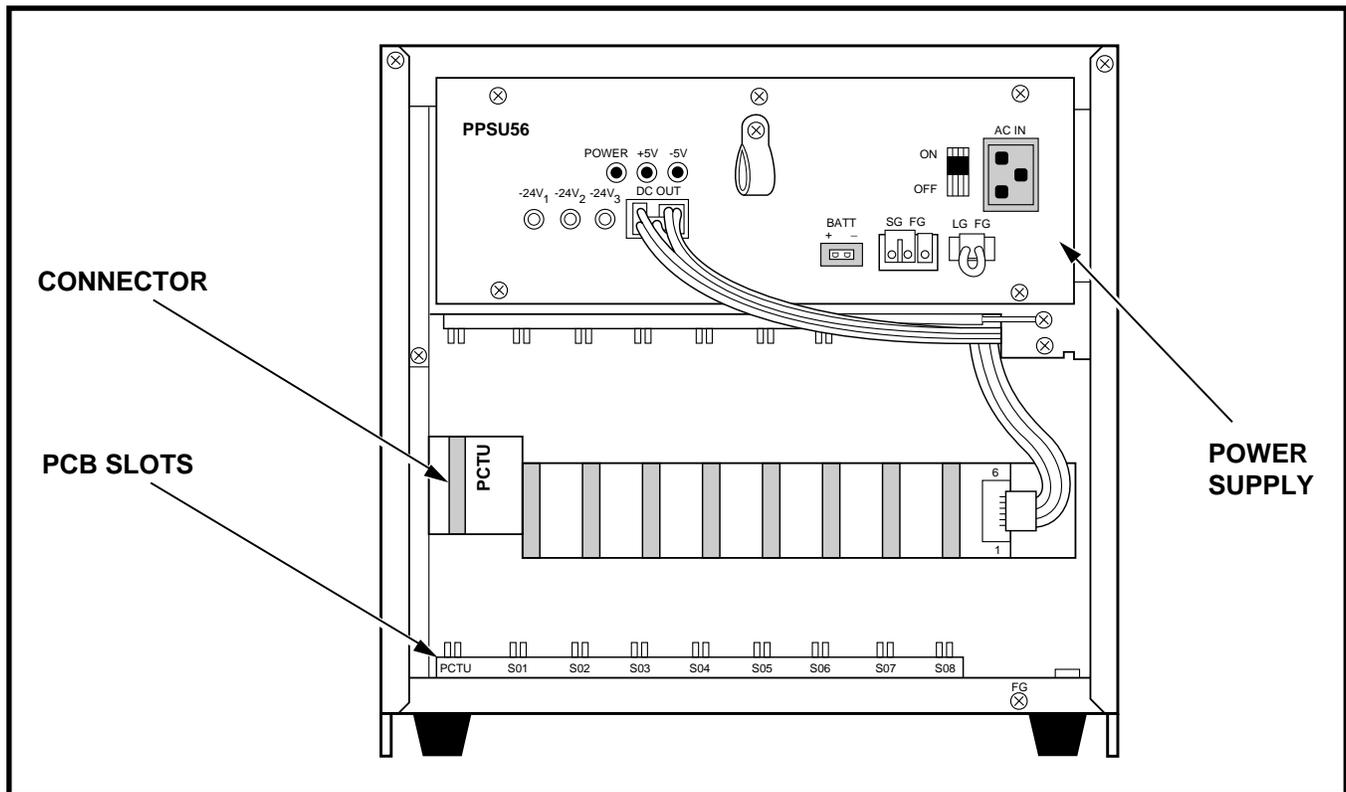

FIGURE 2-3—DK56 KSU INTERIOR
3.21 The DK56 KSU interior also has just one shelf (Figure 2-3), but with nine available PCB slots. These slots are labeled PCTU and S01 ~ S08; only the PCTU slot serves a dedicated function.